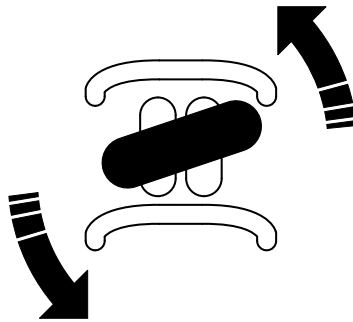

Figure 11
- To turn left, rotate the traction control counterclockwise (Figure 11).